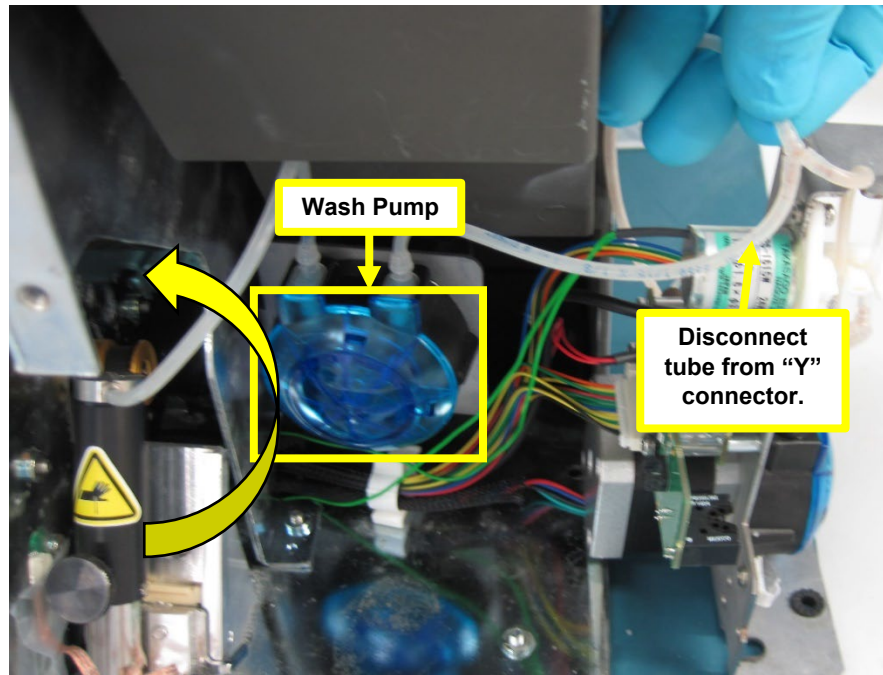

Figure 18
- 4.6. Disconnect the right side of wash pump tubing by disconnecting it from the “Y” connector. Figure 18